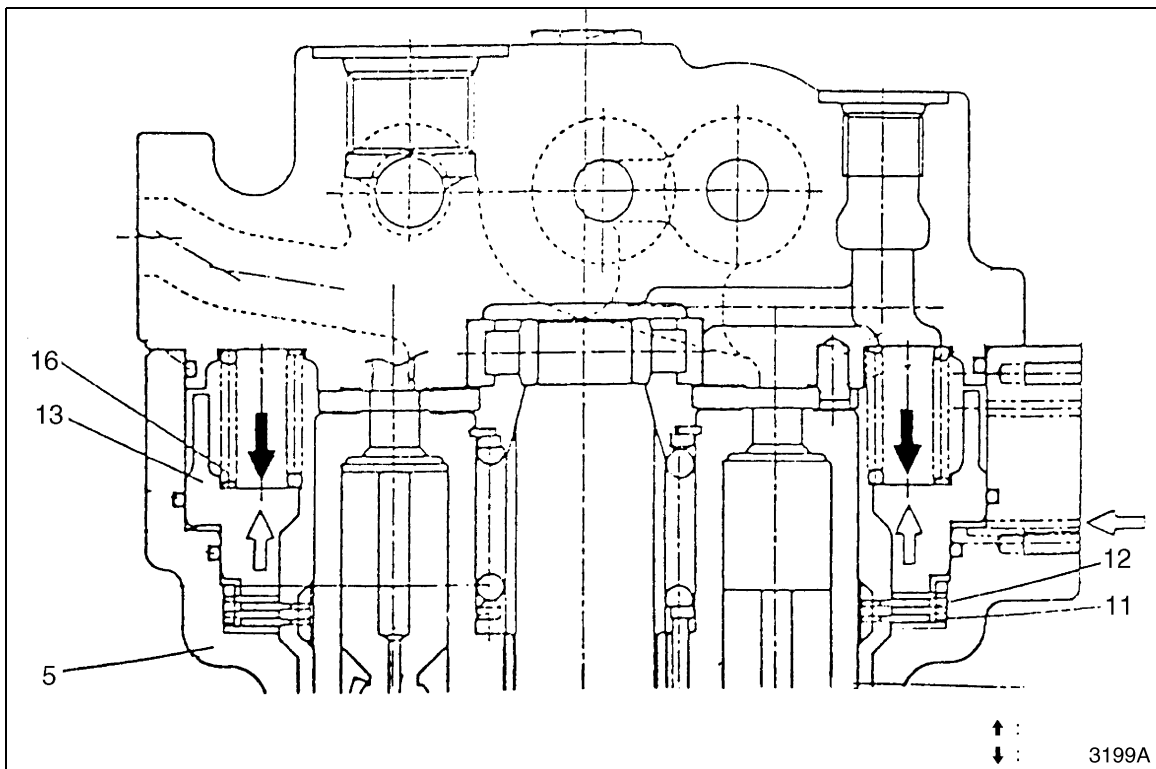

Figure 3
The swing brake is applied when the brake spring (16, Figure 3) locks up the friction plate (11), split plate (12) and swing motor casing (301), preventing the motor drive shaft from turning. When hydraulic pressure is forced to the back side of the brake piston, the friction plate and swing motor casing are separated, releasing the brake.